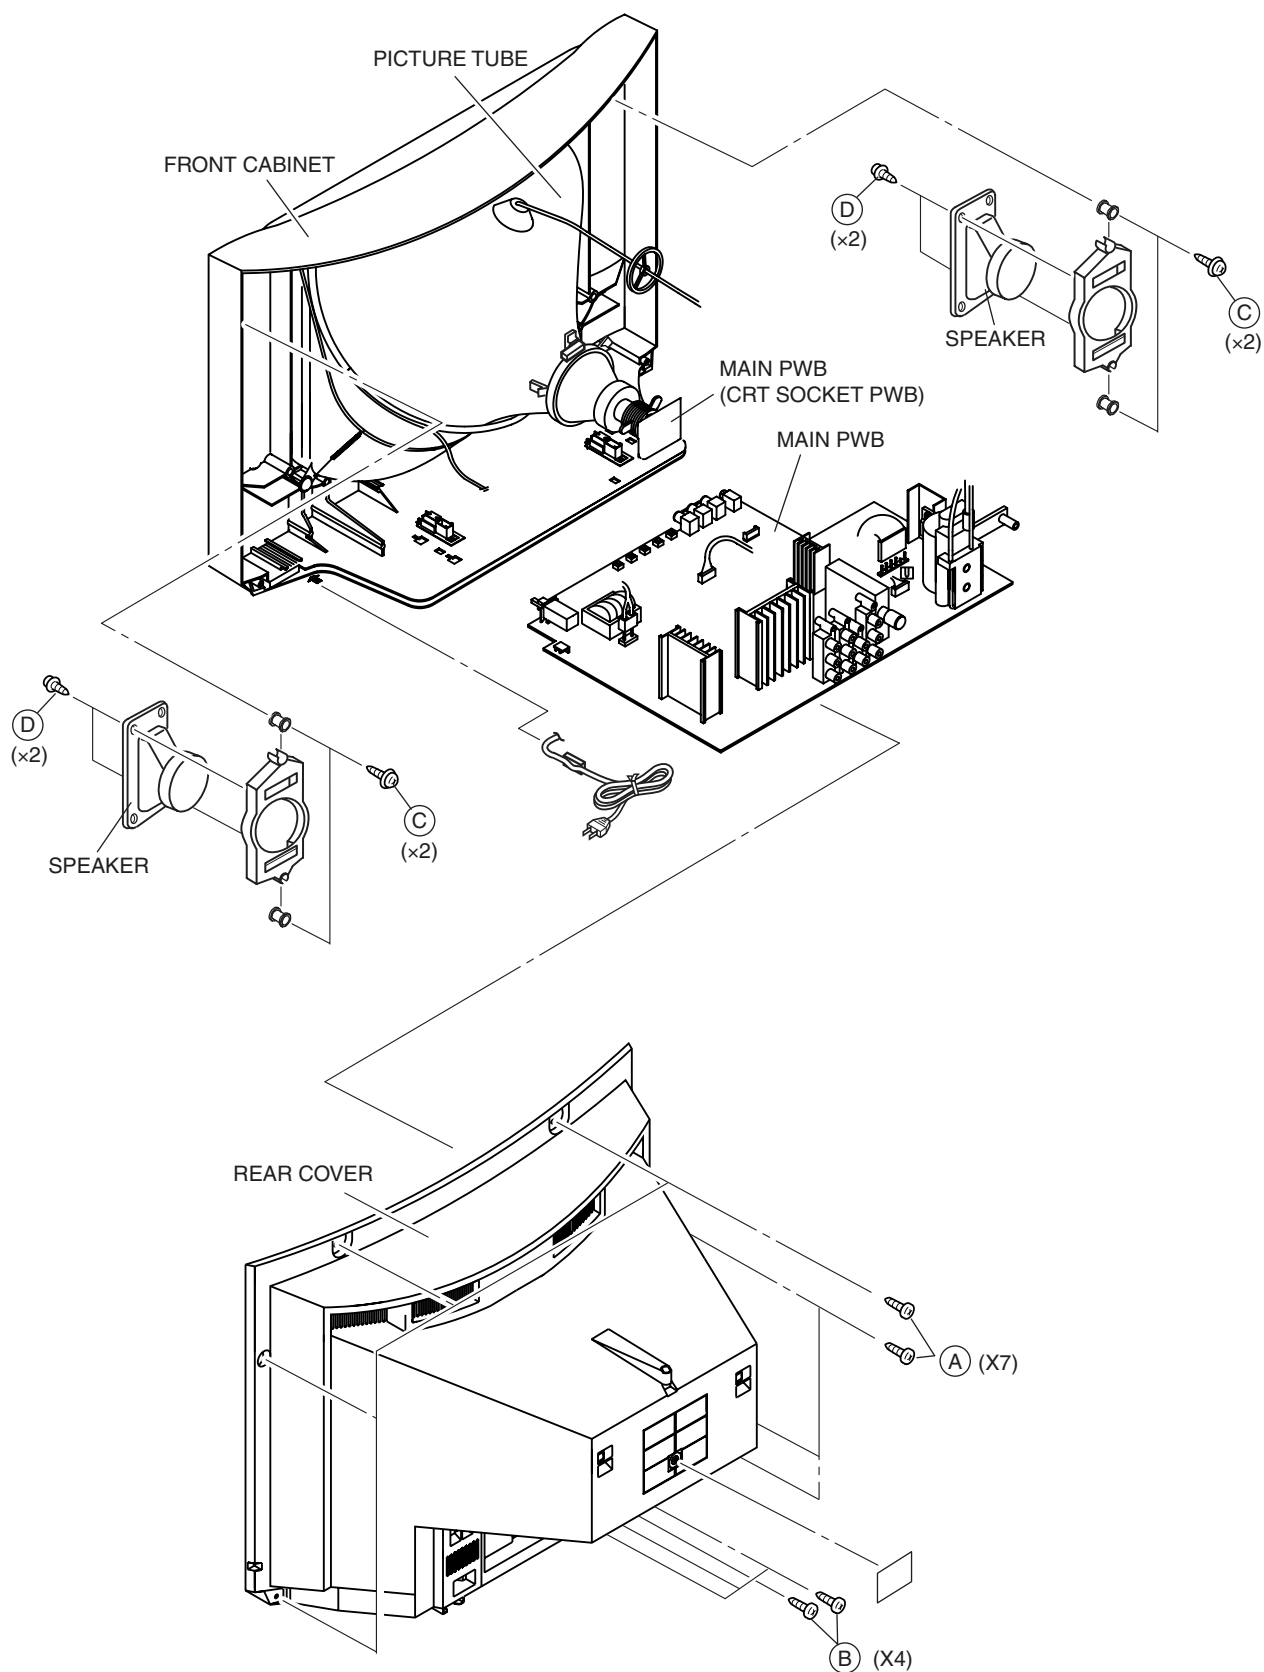

Fig.1
2. Remove the 7 screws marked (A) and 4 screws marked (B) as shown in Fig.1.
1. Remove the 2 screws marked (C) and 2 screws marked (D) as shown in Fig.1.